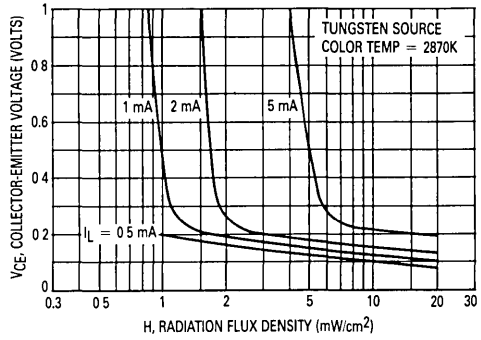

Figure 2. Collector-Emitter Saturation Characteristic
- NOTES: 1. Radiation flux density (H) equal to 5 mW/cm^2 emitted from a tungsten source at a color temperature of 2870 K.
2. Radiation flux density (H) equal to 0.5 mW/cm^2 (pulsed) from a GaAs (gallium-arsenide) source at $\lambda = 940 \text{ nm}$
3. For unsaturated response time measurements, radiation is provided by pulsed GaAs (gallium-arsenide) light-emitting diode ($\lambda \approx 940 \text{ nm}$) with a pulse width equal to or greater than 10 microseconds (see Figure 2) $I_L = 1 \text{ mA peak}$